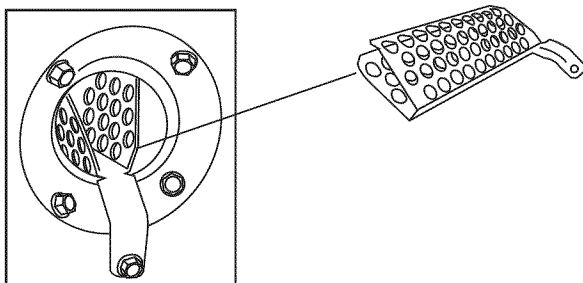

Fig. 35 - NOx Device
1. Remove the screw underneath the heat exchanger inlet that secures the NOx device in the heat exchanger. (See Fig. 35.)